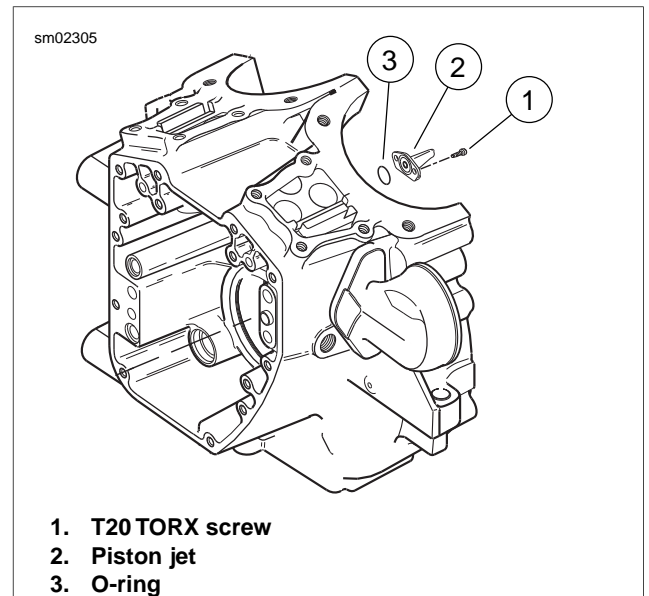

Figure 3-132. Piston Jets
- See Figure 3-132. Remove two T20 TORX screws (1) to free piston jet (2) from crankcase.
- Remove o-ring (3) from groove in mounting flange of jet. Discard o-ring.
- See Figure 3-132. Apply a very thin film of clean H-D 20W50 engine oil to **new** o-ring (3) for piston jet. Install **new** o-ring in groove of jet mounting flange.
- With jet pointed upward, start two T20 TORX screws (1) to secure piston jet (2) to crankcase. Tighten to 25-35 **in-lbs** (2.8-3.9 Nm).